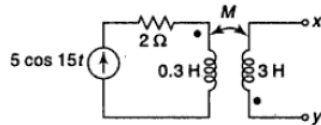

Fig. 14.16
14.27. Determine the total energy stored in the passive network shown in Fig. 14.16 at $t = 0$. Assume $K = 0.5$ and terminals x and y (i) open circuited (ii) short circuited.
From Fig. 14.16, we have